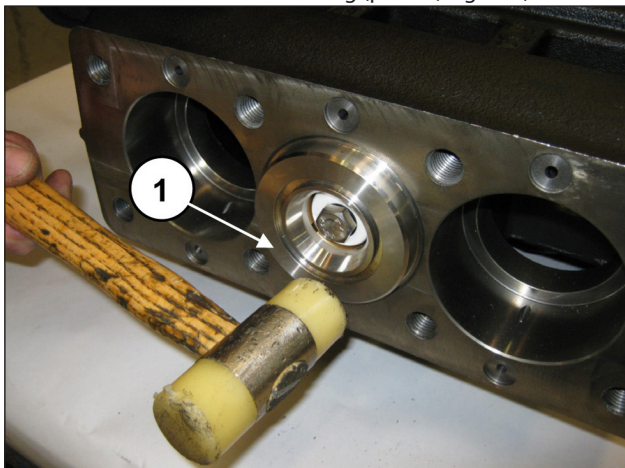

Fig. 192
Ensure that the liner-support block is positioned correctly down to the bottom of the housing (pos. ①, Fig. 192).